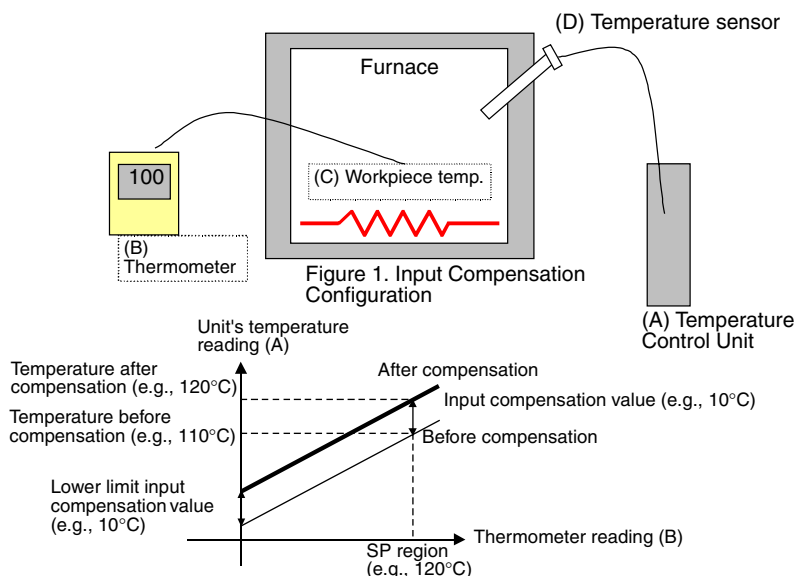

Figure 2. Compensation Graph of 1-point Compensation
**2** The input compensation value is just the difference between the workpiece's temperature (B) and the Temperature Control Unit's reading (A). Figure 2 shows the process values before and after compensation.